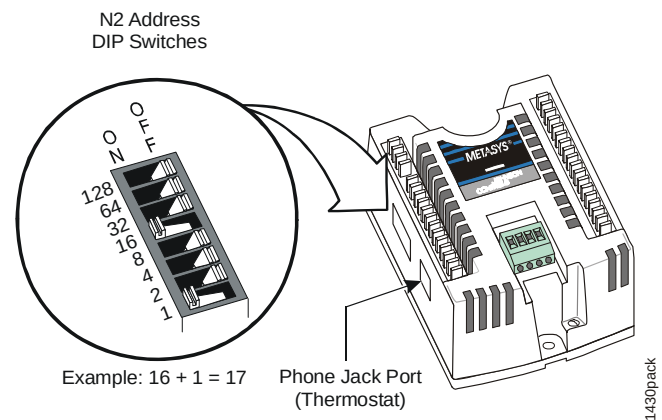

Figure 2: VMA1430 Controller
In hardware addressing, the N2 address DIP switches on the side of the VMA are manually set to the appropriate address (Figure 2). The N2 hardware address equals the sum of the values beside each DIP switch that is set to ON. For example, if the first DIP switch (1) and the fifth DIP switch (16) are both set to ON, the N2 hardware address for that controller is 17 ($1 + 16 = 17$).